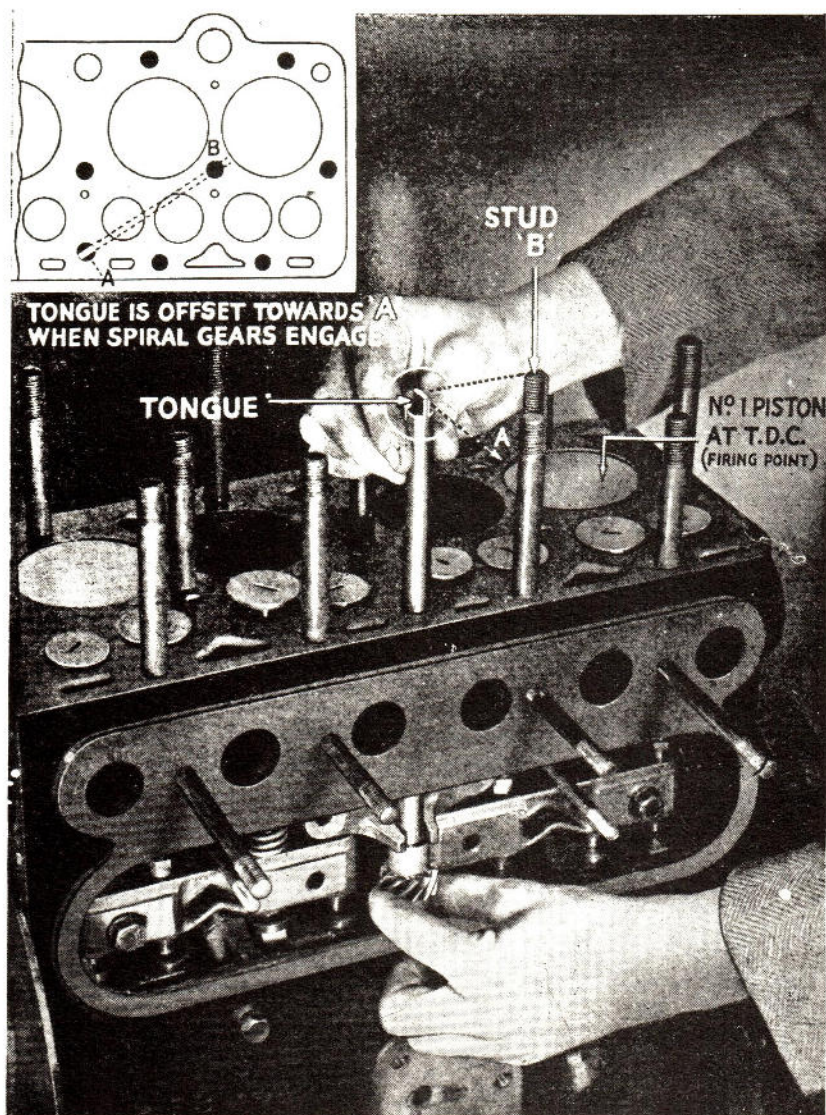

Fig. 11.
10. When refitting distributor shaft and gear, the engine should have No. 1 Piston on T.D.C. and the valves closed. The shaft and gear should then be engaged as indicated in Fig. 11.
2. If the distributor head and bracket are removed, the offset on the distributor driving shaft should be towards the rear of the engine, and the tongue or projection, should be pointing approximately towards the second cylinder head stud in the centre row, see Fig. 11.